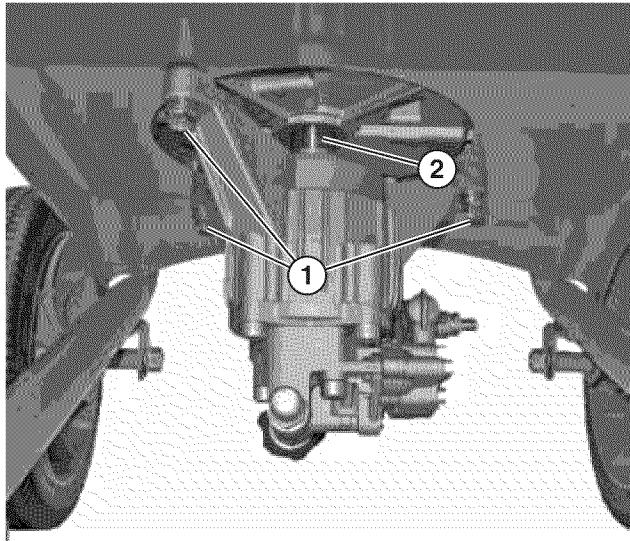

Figure 40 – Pump/Engine Mounting Bolts
2. Remove the 3 mounting bolts and washers holding the pump to the frame (see *Figure 40*).
3. Slide the pump down off of the crankshaft (see *Figure 40*).